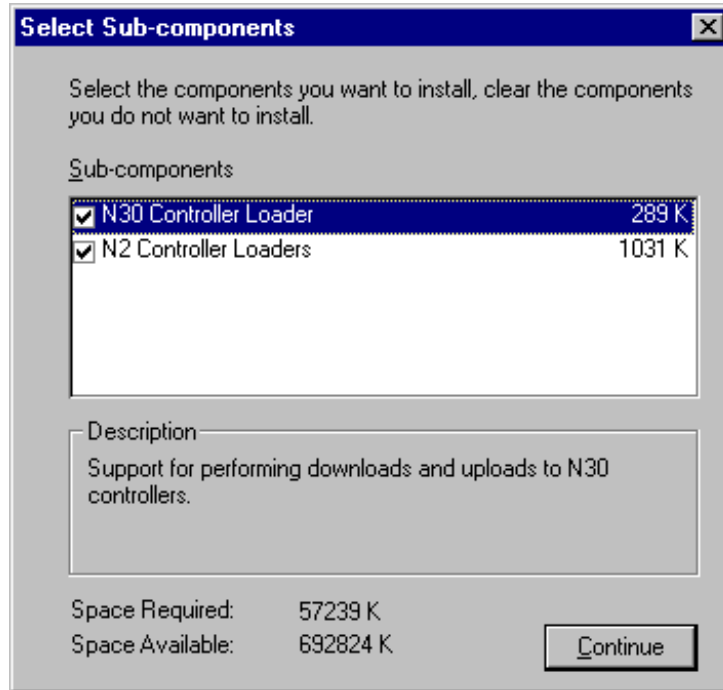

Figure 9: Select Sub-components Dialog Box
16. To change the Load Manager subcomponents, select the Load Manager component and click the Change button. The Select Sub-components dialog box appears. Figure 9 shows the subcomponents of the Load Manager. See Table 12 for a list of the available subcomponents.